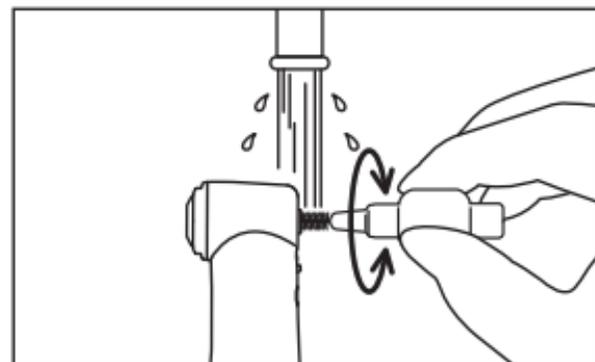

Fig. 21
- 2) Clean inside the bur/drill insertion hole for 15 seconds or more under running water, using an interdental brush (wire thickness 0.7mm) that conforms to size 4 in ISO 16409. (Fig. 21) (Water condition:  $\leq 38^{\circ}\text{C}$ ,  $\geq 3.5\text{L/min}$ ; water should be of the same quality as drinking water)